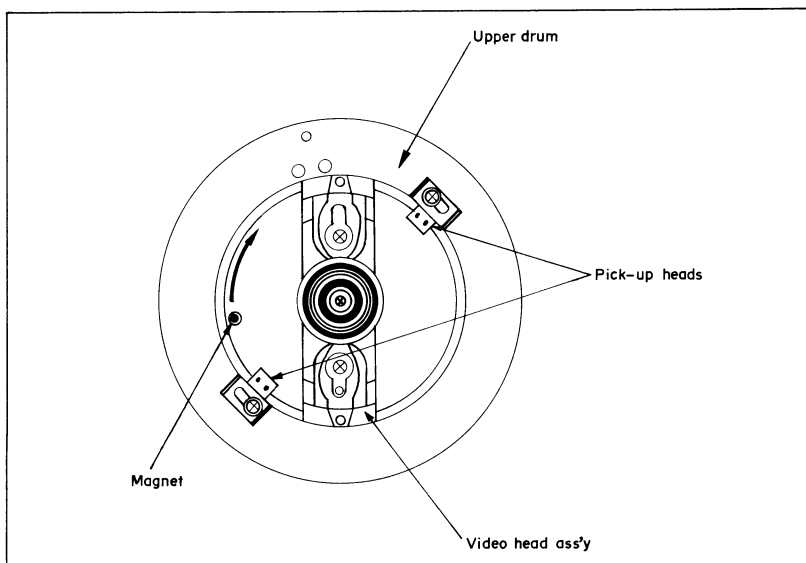

Fig. 3-2.
signal is recorded and played back by the lower core. The tape travels to guide pole (J), and it is squeezed by the capstan (K) and the pinch roller (L) before it is wound onto the take-up reel (M). Video head assembly and capstan are driven by each DC motor separately. DC motor torque is transmitted to the video head assembly and capstan via pulley and belt. The video head drum assembly has two built-in 30Hz pick-up heads and a magnet. A magnet is mounted on the flange of the video head assembly and the two pick-up heads are mounted on the upper drum. The relative position of the video heads, pick-up heads and magnet is shown Fig. 3-2.